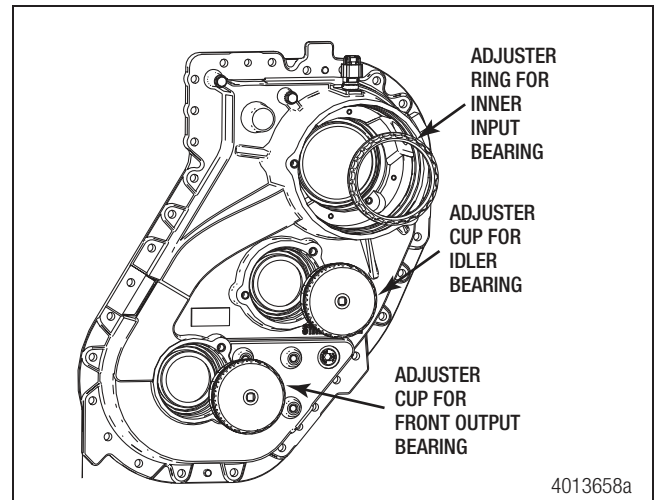

Figure 7.25
8. Start all of the bearing adjusters (ring and cups) in the transfer case by hand, making sure not to cross thread. Figure 7.25.